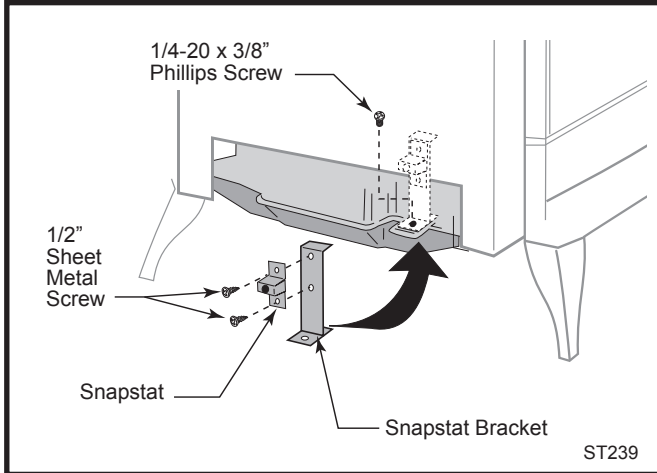
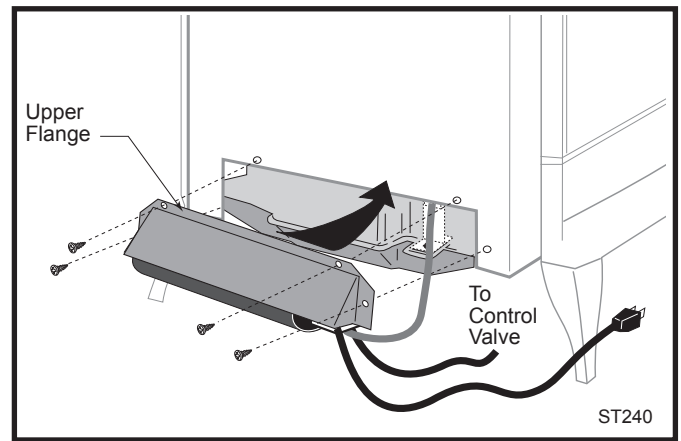

Fig. 8 Snapstat assembly and installation.
Fig. 9 The upper flange of the fan skirt should be located behind the lower edge of the shroud.
1. Attach the snapstat assembly to the snapstat bracket with two sheet metal screws. (Fig. 8) Remove the 1/4-20 x 3/8" hex head bolt installed in the hole in the right rear ledge of the firebox. Use that bolt to secure the snapstat bracket to the firebox. The mounting hole is slotted to allow you to adjust the bracket so that the snapstat bracket head makes contact with the firebox. (Fig. 9)
2. Attach the fan to the rear shroud by engaging the upper flange of the fan skirt under the lower edge of the shroud and secure the skirt with the four screws and one star washer provided. (Fig. 9,10)